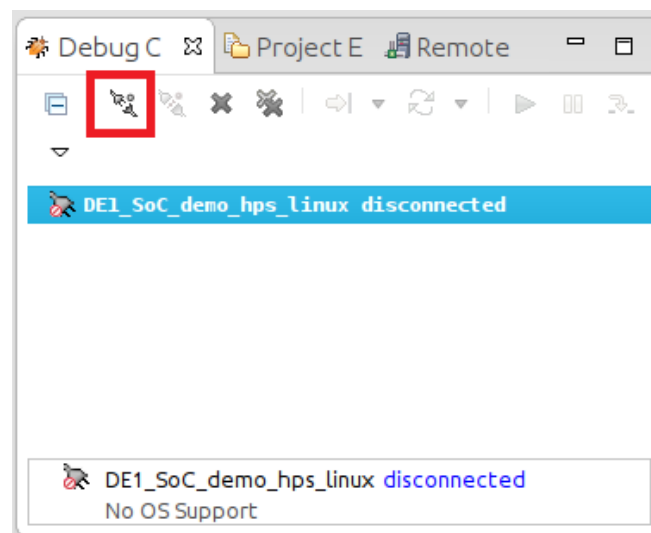

Figure 8-64. Debug Control View
27. In the "Debug Control" view, click on the "DE1_SoC_demo_hps_linux" entry, then click on the "Connect to Target" button, as shown on Figure 8-64. The debugger will start an SSH connection to the Linux distribution running on the DE1-SoC and will automatically transfer our binary file and wait at our application's "main()" function.